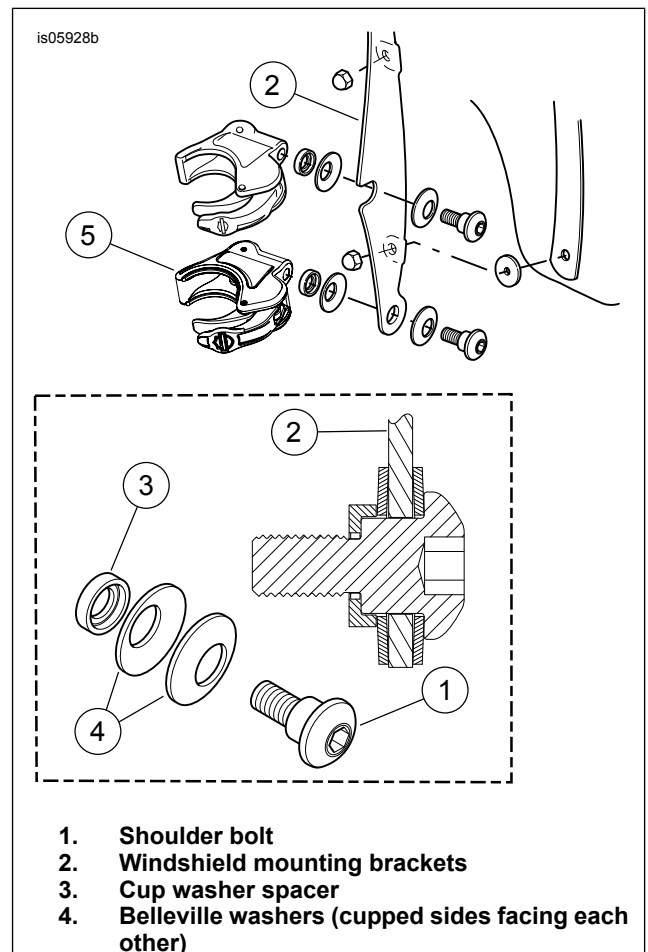

Figure 2. Windshield Mounting Clamp
3. See Figure 2. Assemble the clamp assemblies and hardware stacks.